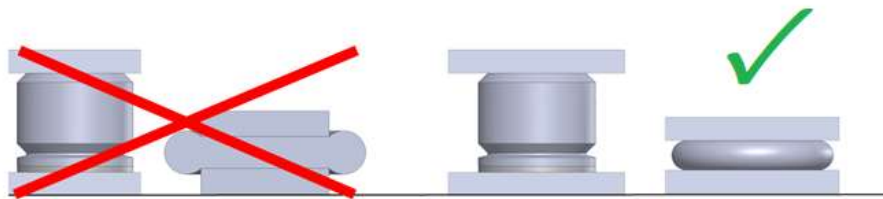

Fig. 6: sufficient dimensioning of counter-pressure plates
4.4 The diameters d_{Gu} , d_{Go} or d_{G1} of the counter-pressure plates must be large enough that the buffer is supported over the entire surface even when the expanded area comes into contact with the plates (fig. 6) (see 4.3).